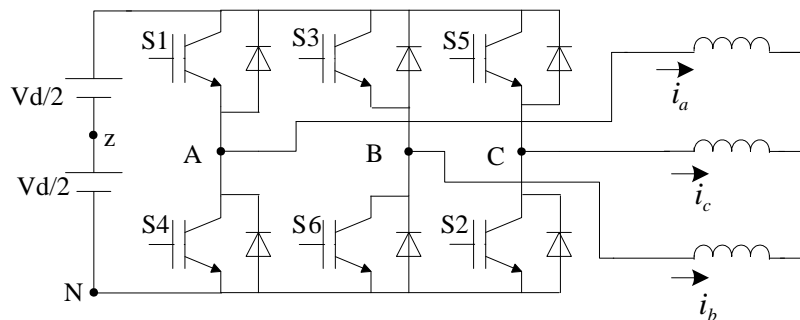

Figure 1.1 Voltage Source Inverter
1. a. A Voltage Source Inverter shown in figure 1.1 is modulated by Sinusoidal Pulse Width Modulation SPWM and it supplies a balanced three-phase RL load. The inverter is supplied from a 600V dc source. A peak current value of $I_{\text{peak}} = 10\text{A}$ is drawn by the load and the load power factor is 0.7. The inverter operates in linear mode. The amplitude and frequency of the fundamental component of the output phase voltage are 240V and 50Hz, respectively. The first sideband harmonics of the output voltage are centred around the 200th harmonic. Switches S1-S6 are assumed to be ideal.
- c. With reference to equivalent circuit diagrams, explain the effect of deadtime on output voltage v_{AN} of the inverter shown in figure 1.1.